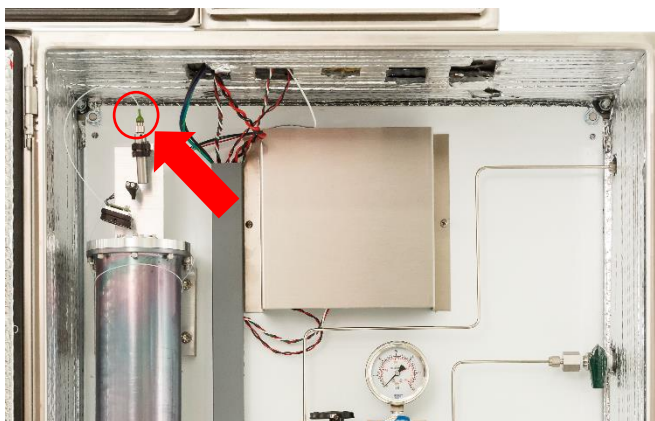

Figure 64: Location of the Fibre Optic Connector
11. Locate the fibre optic connector shown in Figure 64.